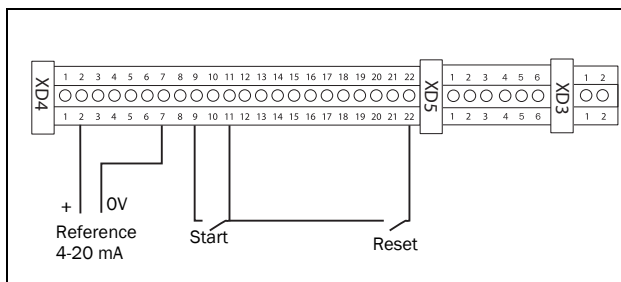

Fig. 27 Wiring
5. Connect digital and analogue inputs/outputs as in Fig. 27.